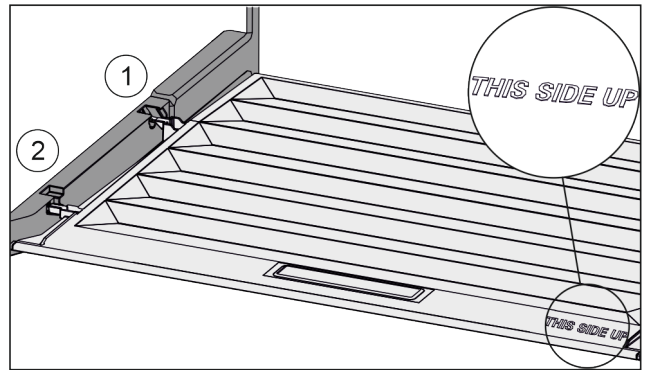

Fig. 29
- ▶ Insert the lip of the cover over the opening of the rear bracket Fig. 29 (1) and click into place Fig. 29 (2).